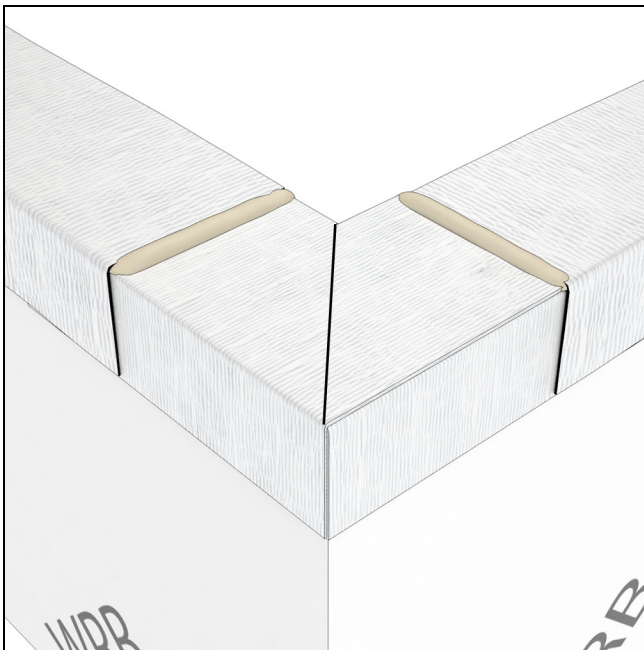

Figure 30
13. Apply sealant at the seam between the corner flashing and the flashing at the legs. See Figure 30.